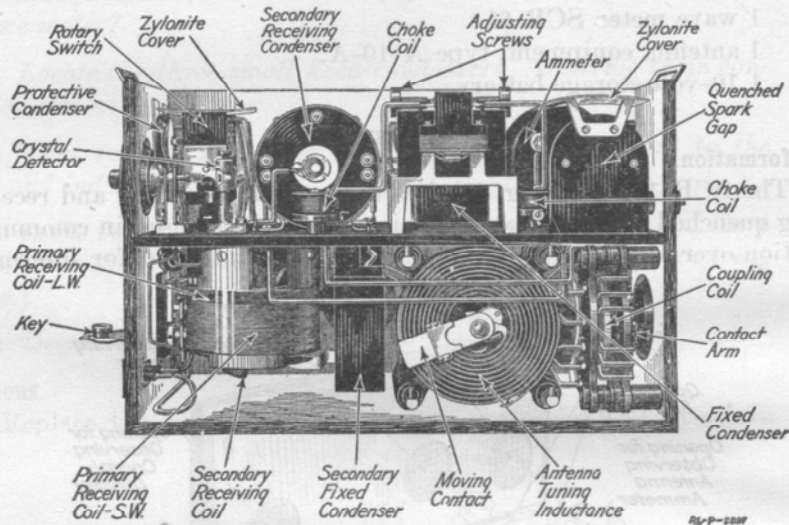

Fig. 50.—Set box BC-53-A with back and top removed to show interior.
1. Remove the eight screws from the back of the set box, also the canvas cover from the front of the box. Unlatch the lid of the box and remove the top, back, and bottom of the set box. This will expose the parts to view as shown in Fig. 50 and in Fig. 51.